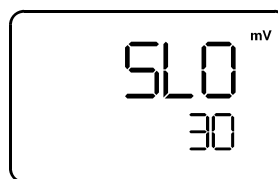
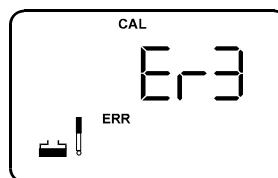

Figure 6: Slope value in mV
Figure 7: Error message Er3 if slope not within range
Calibration values are successfully stored if the ISE slope is within the specified tolerance of 15mV/decade (minimum) and 90mV/decade (maximum), otherwise an error message "Er3" is displayed (see Figure 7). The calibration values are not stored into the meter's built-in memory if any error message appears after each calibration process. Re-calibration is necessary as calibration is unsuccessfully attempted in this instance. Check that your ISE and standard solutions are in good working conditions.
**NOTE:** If you are performing a 2-point ion calibration, press **CAL/MEAS** key. "SLO" appears in the upper display with the [mV] indicator and the number in the lower display is the electrode slope in mV (see Figure 6). You are ready to take ion measurements. If the slope is outside the acceptable limits or if incorrect standards have been used the upper display will show "Er3" (see Figure 7).
8. Allow meter to stabilize in the next calibration standard. Wait for the [READY] indicator to appear before you press the **ENTER** key to confirm the third calibration point. The upper display flashes for a few seconds then "SLO" appears in the upper display with the mV indicator, the number in the lower display is the average electrode slope in mV (see Figure 6). After a few seconds the meter reverts to the measurement mode. You are now ready to take ion measurement.